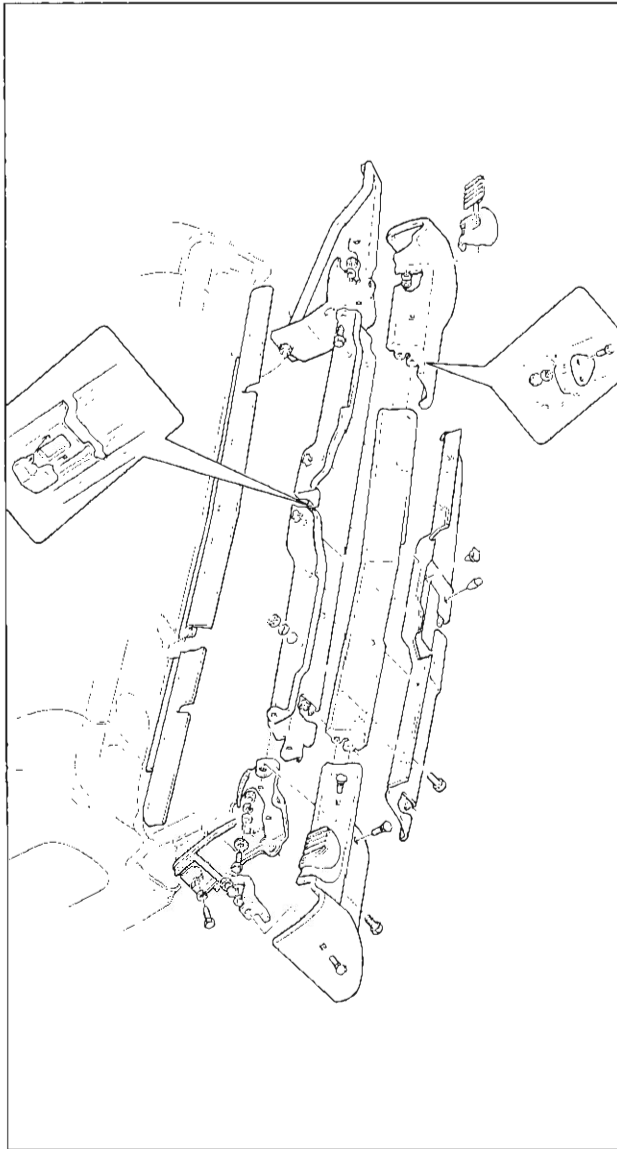

Fig. 11c—Rear Bumper
Disassembly (fig. 11c)
4. Separate three sections of face bar by removing bolts shown in Figure 11c.
Assemble, following disassembly procedure in reverse order. Install all bolts loosely (do not tighten any bolts until all bolts are installed). Check condition of seal shown in Figure 11c. Replace if necessary. Install license plate lamp on bumper.